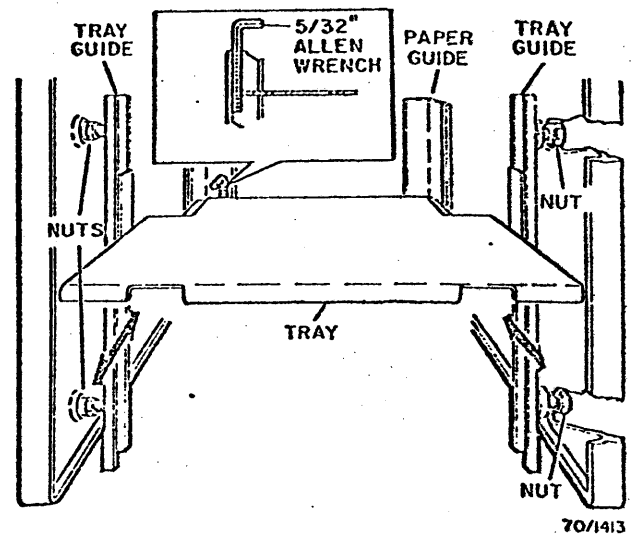

Fig. 3-55. Paper Tray Clearance
1. Lower the paper tray. Using a 5/32-inch Allen wrench, check the clearance between the paper tray and the paper guide at both inboard and outboard locations (Fig. 3-55).